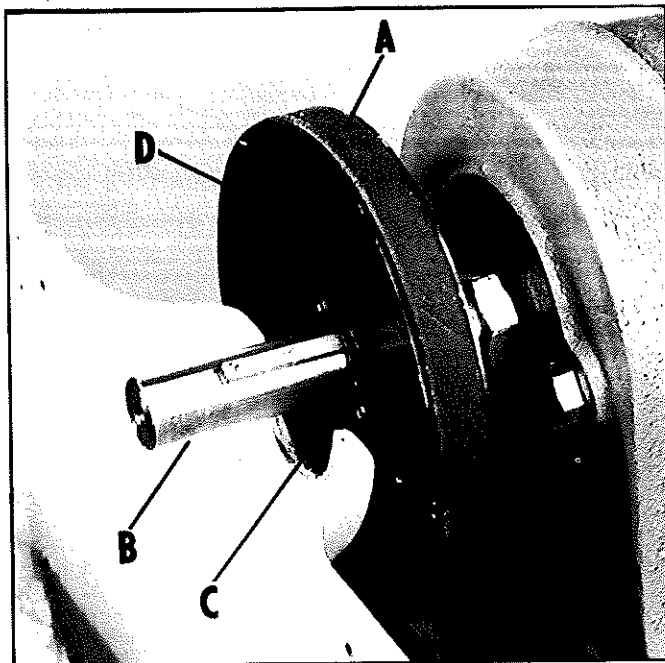

Fig. 29
7. If your machine is not equipped with the disc sander dust chute, the V-belt (A) Fig. 29, can now be removed from the machine by passing it between the shaft (B) and the lower disc guard (C).
8. If the pulley (D) Fig. 29, is to be replaced, the bottom half of the disc sander guard will have to be removed by removing the two screws that attach the bottom guard to the base of the disc sander.